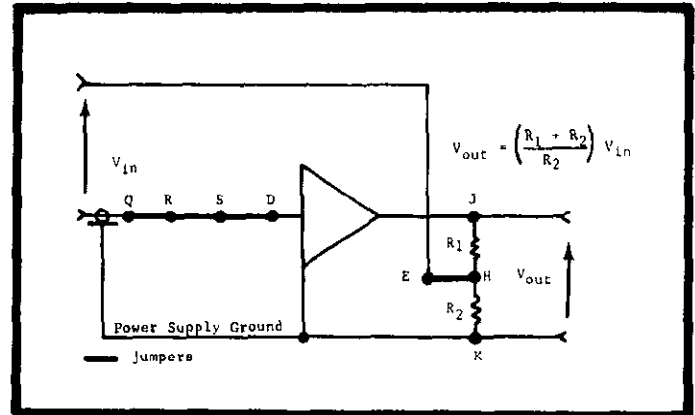

FIGURE 13. Impedance Matching Amplifier with Divided Output.
a. The Model 300 is an excellent impedance matching amplifier. This mode requires no elements in the feedback circuit. Use the Amplifier in this mode either for unity gain or to obtain voltage gain. Achieve voltage gain using an internal or external dividing network on the output (Figure 13). Use the Model 300 as an impedance matching amplifier only with a floating power supply or a floating signal source from 10 millivolts to 11 volts. Insulate the Model 300 input connector in this mode.
2. For an amplifier with voltage gain (Figure 13): if the signal source is floating, the power supply need not be floating. If the signal source is grounded, both the power supply and the output monitoring device must float.
d. Connections for the Model 300 as an impedance matching amplifier with a divided output (Figure 13):